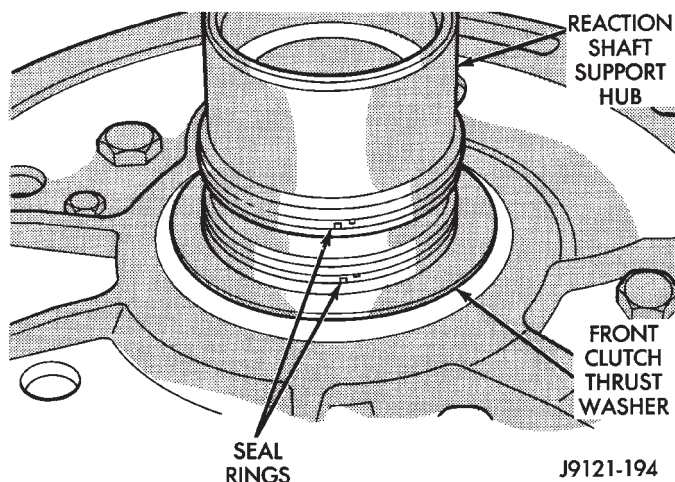

Fig. 150 Reaction Shaft Support Seal Rings
(6) Verify that reaction shaft support hub seal rings are hooked together (Fig. 150).